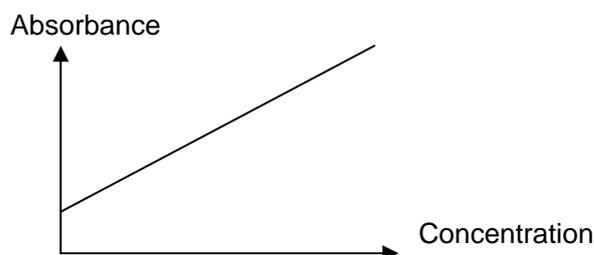

Figure 5-5 Linear regression
- 4) Linear regression: 2-8 standards are permitted to set. Through these standard points, a straight line is regressed, $Y = kX + b$ as the calibration curve, as shown in Figure 5-5.